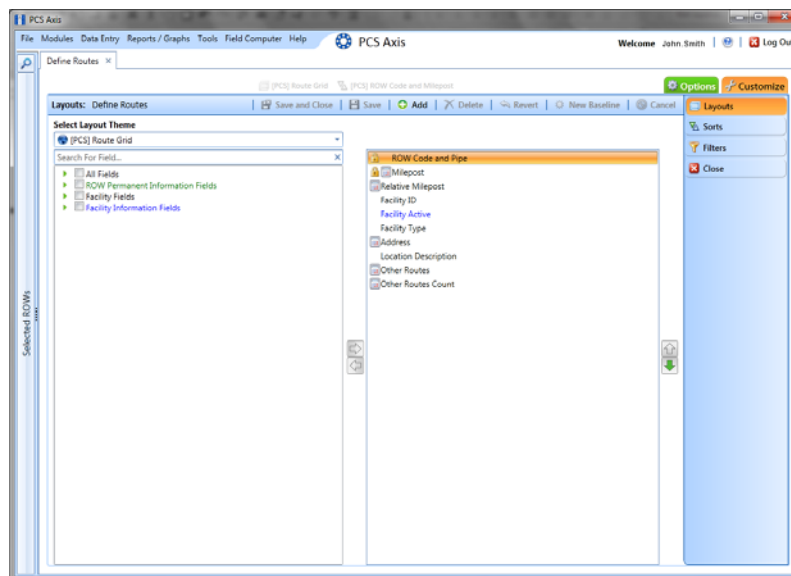

Figure 7-42. Layouts
- 3 Click the **Customize** tab  to view the *Layouts* page (Figure 7-42, page 328).
- 3 Click the **Customize** tab  to view the *Layouts* page (Figure 7-42).